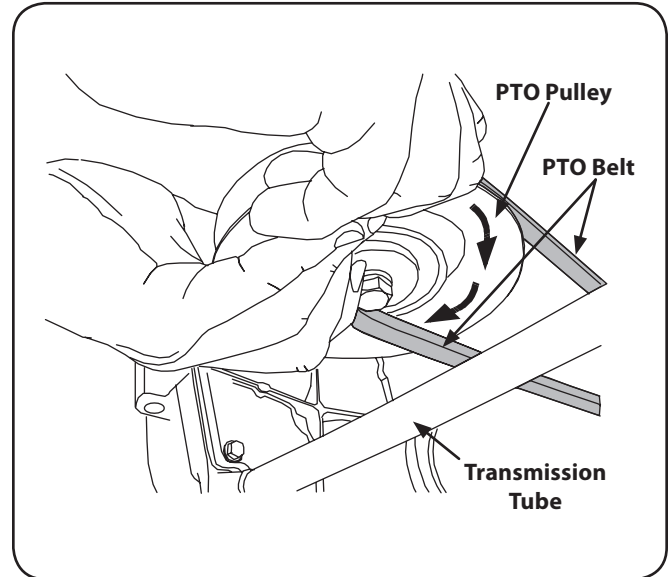

Figure 7-4
5. While still holding the belt downward, continue turning the PTO pulley until the belt is rolled off the pulley. Refer to Fig. 7-4.
11. Pull the right side of the belt rearward and place the narrow V side of the belt into the PTO pulley. See Fig. 7-4.
12. While holding the belt and pulley together, rotate the pulley to the left (See Fig. 7-4). Continue holding and rotating the pulley and belt until the belt is fully rolled into the PTO pulley.